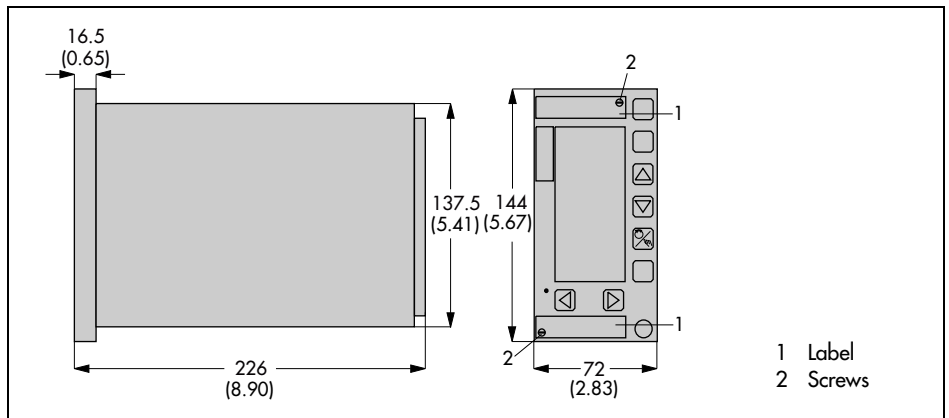
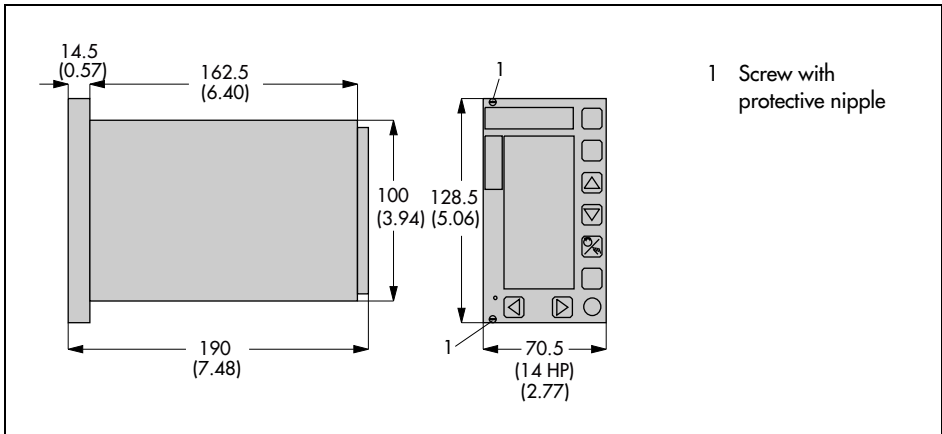

Fig. 3 · Dimensions (panel-mounting unit)
Fig. 4 · Dimensions of the 19inch rack-mounting unit
2. Secure the process control station to the rack unit by fastening it from the front, using two screws (see 1, Fig. 4).
1. With panel-mounting cases, remove small paper labels (see 1, Fig. 3) if necessary. With 19inch rack-mounting units, remove the two protective nipples. Unscrew the two screws located on the front-panel of the case (see Fig. 3 or Fig. 4 , depending on the type of case).